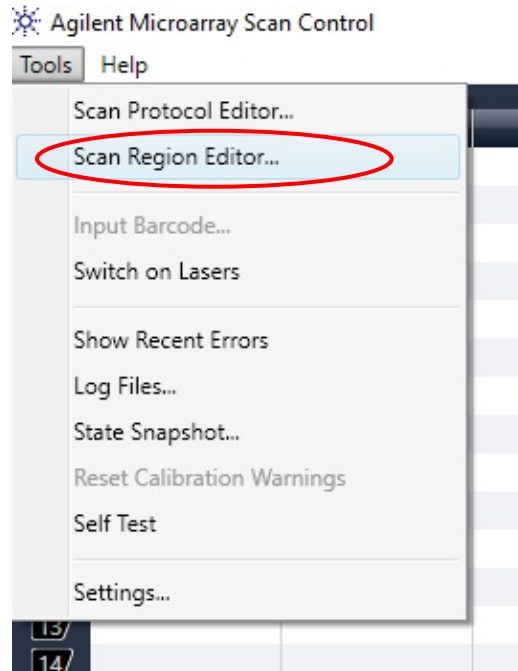

Figure 1: Scan Region Editor
1. Click 'Tools > Scan Region Editor' (Figure 1).